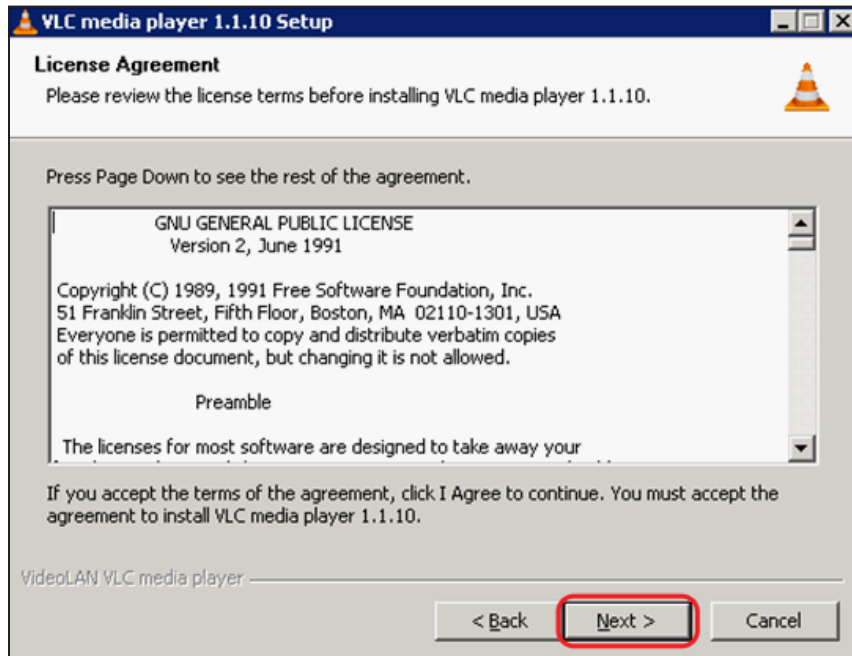

Figure 46. VLC Media Player Agreement Window
7. The VLC media player agreement window appears. Read over the agreement and license terms. To accept the agreement, click **Next** (see figure 46).